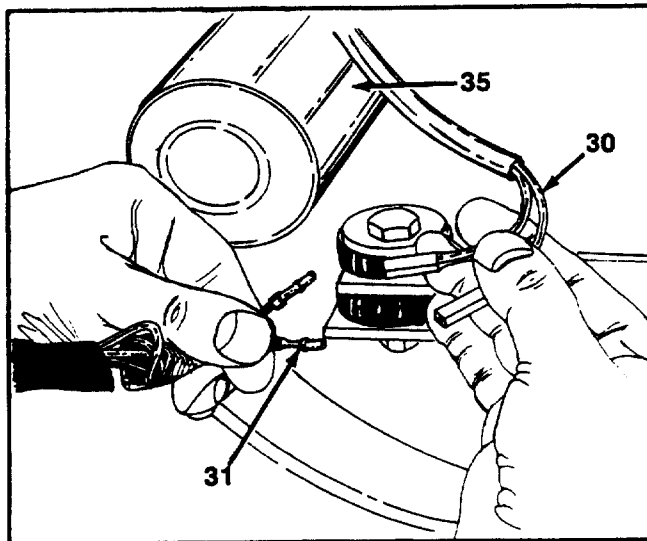

FIGURE 17.
20. Disconnect the two blue alternator wires from the wiring connectors in the wiring harness. See figure 17.